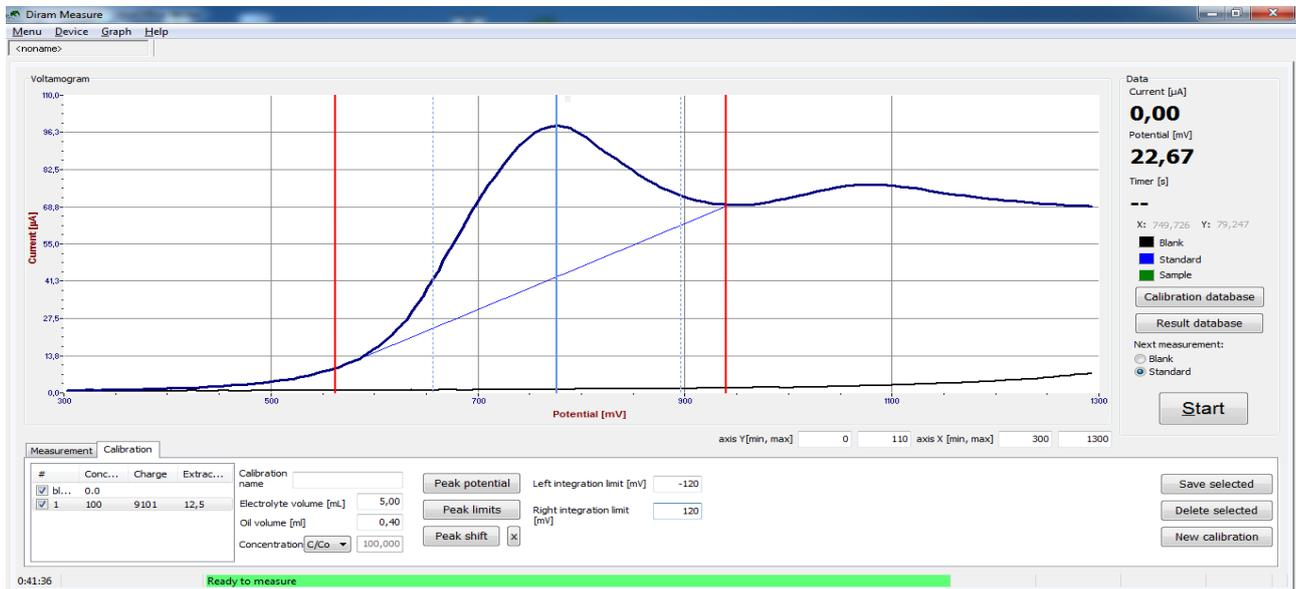

Figure 7: Peak potential - maximum (blue line), peak limits (red lines) and integration limits (blue dotted lines).
12. Define the peak limits clicking at *Peak limits* button and to the start and the finish as shown in **Fig. 7**. The integration area is given by integration limits depicted by blue dotted lines. The integration limits can be equal to the peak limits or defined in more narrow intervals.